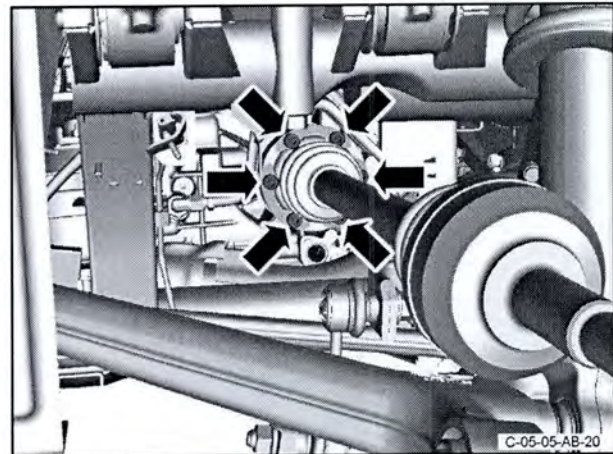

Figure 13
21. Remove and discard the six Allen head bolts that attach the left drive shaft flange to the transaxle. Collect the three locking plates from the drive shaft flange (refer to Figure 13).